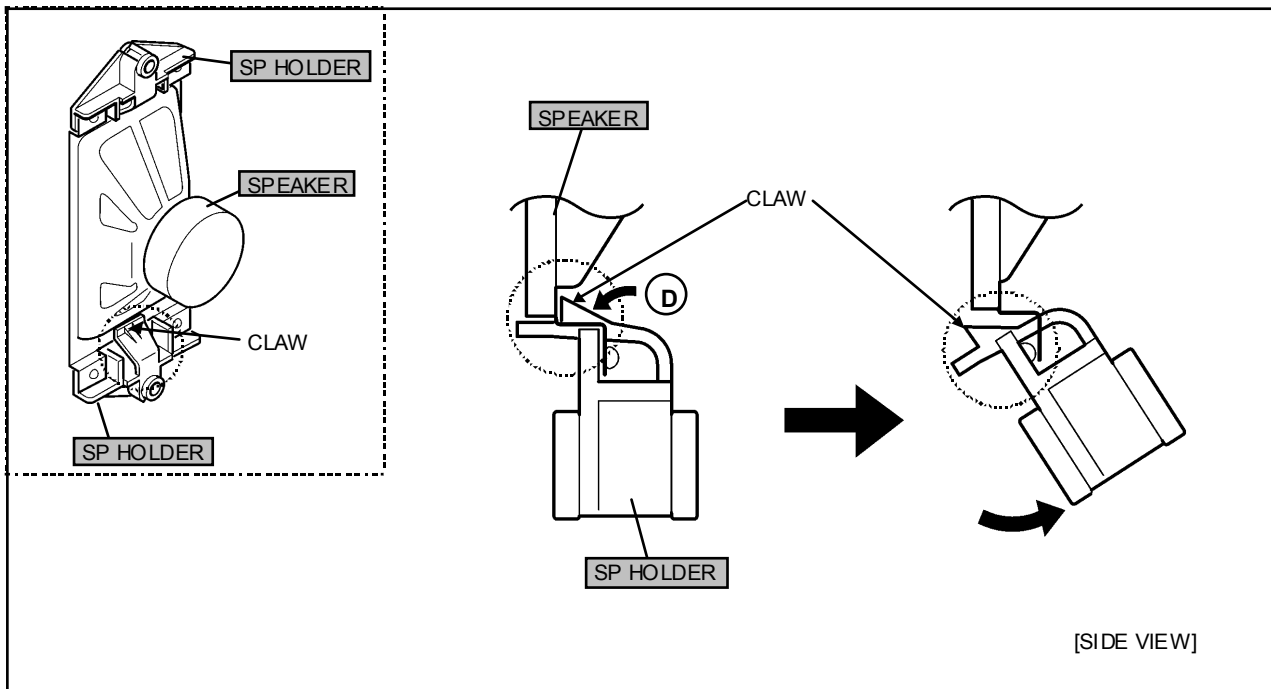
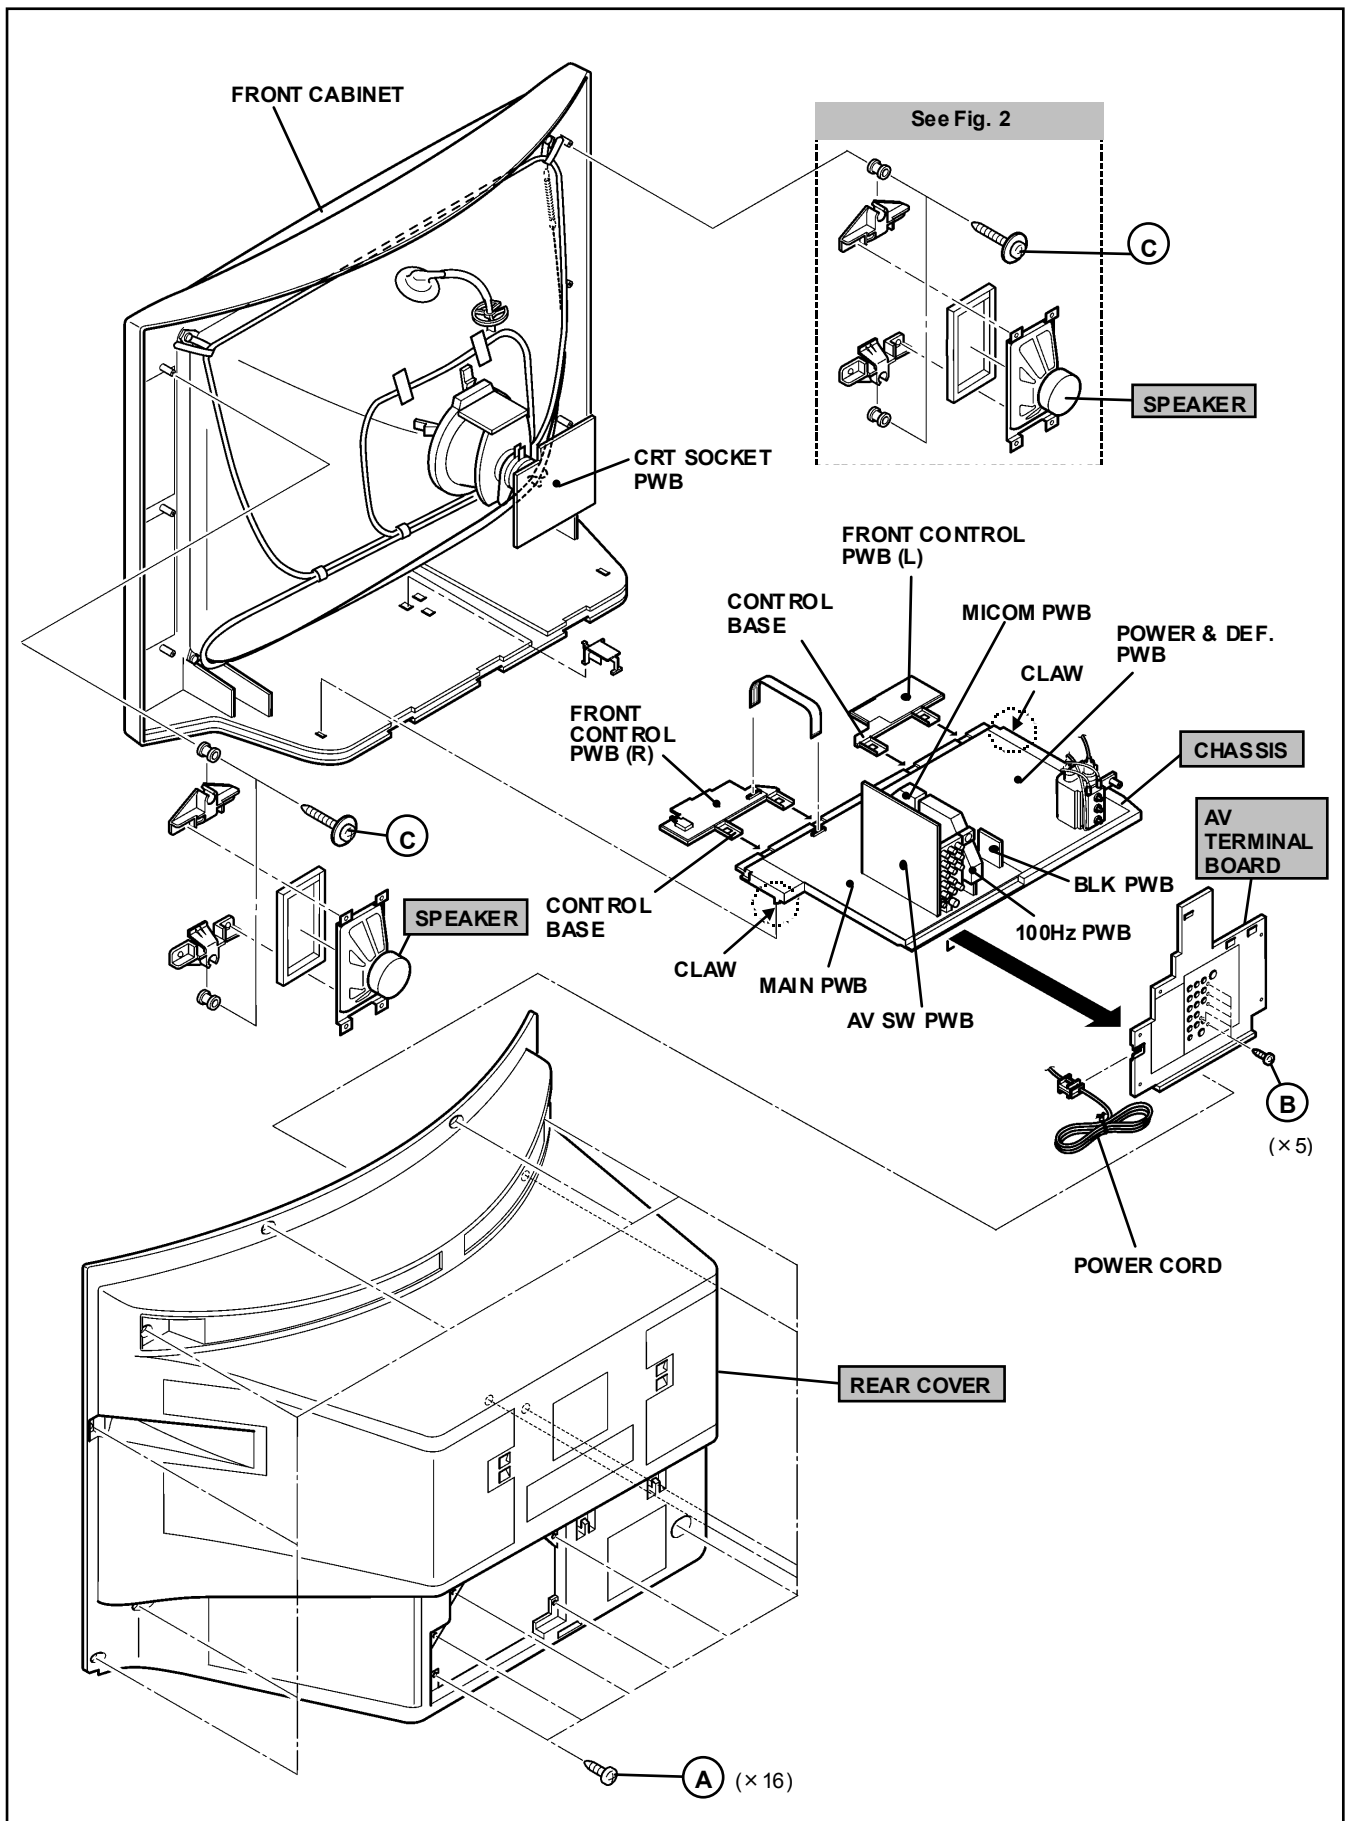

Fig. 2
Fig. 1
1. Remove the 2 screws marked (C), and remove the SP holder as shown in Fig. 1.
- NOTE:** When removing the screws marked (C) of the SP holder, remove the lower side screw first, and then remove the upper one.
2. Remove the claw marked (D) push the SP holder as shown in Fig. 2.